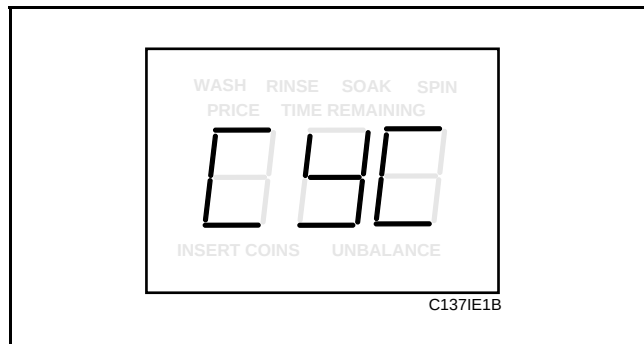

Figure 106
3. The VFD will change from “SPC” to “CyC.” See **Figure 106**. “CyC” is the first Audit Option.